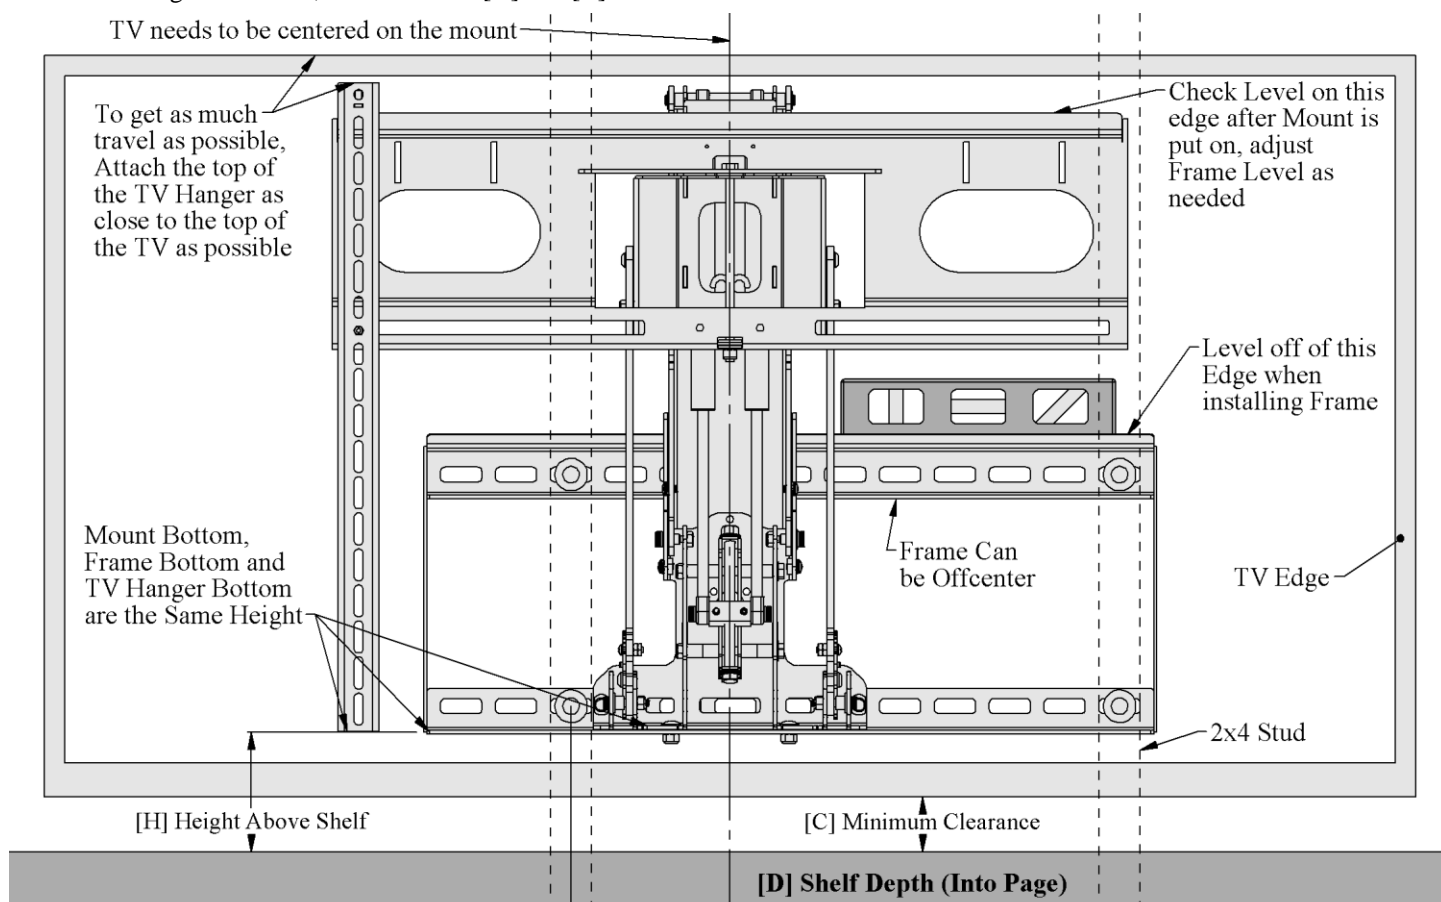

Figure 8, Positioning Mount on the Wall
4. Figure 8 shows the important things to look for and measure.
6. Level the mount as shown in Figure 8.